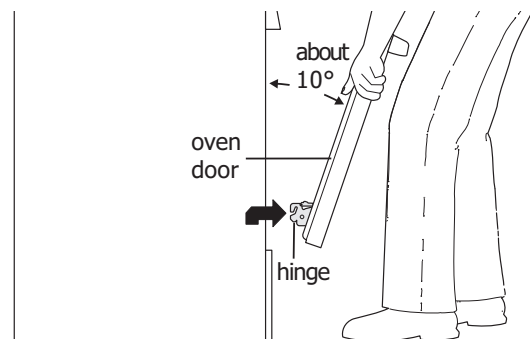
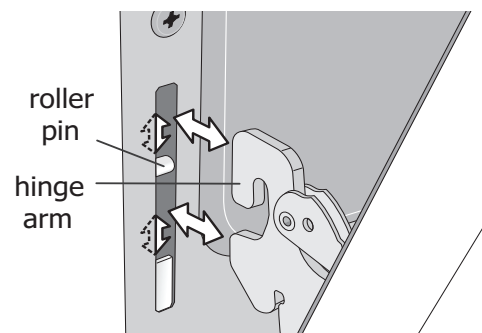

Figure 17: Holding door for removal
Figure 18: Location of hinge arm and roller pin
3. Firmly grasp both sides of oven door along the door sides. Do not use the oven door handle (See Figure 17).
5. Lift the oven door hinge arms over the roller pins located on each side of the oven frame (See Figure 17).
1. Firmly grasp both sides of oven door along the door sides. Do not use the oven door handle (See Figure 17).
2. Holding the oven door at the same angle as the removal position (See Figure 17), seat the hook of the hinge arm over the roller pins located on each side of the oven door frame (See Figure 18). The hook of the hinge arms must be fully seated onto the roller pins.